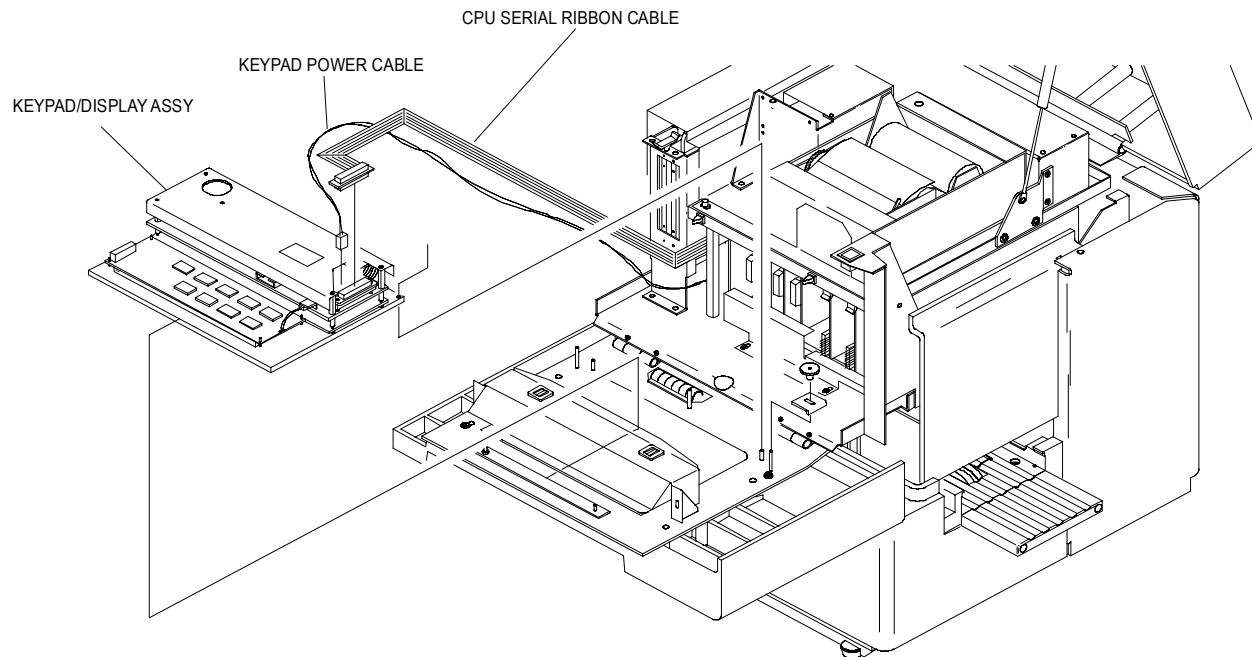

Figure 4-10. Keypad Power Cable
4. Disconnect Keypad Power Cable (**Figure 4-10**).